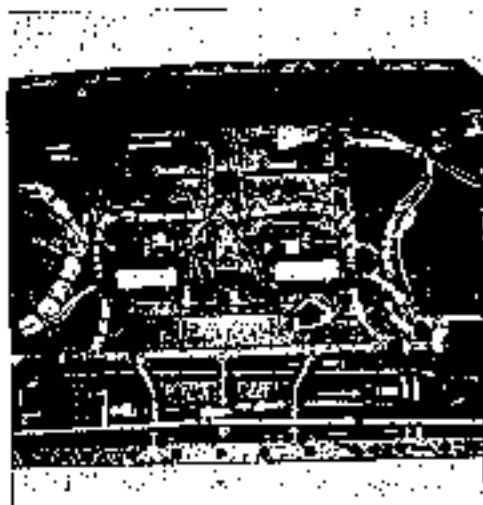

Fig. 6-2 Installation of speed switch .
3.1 REMOVAL AND INSTALLATION OF SPEED SWITCH (See Fig. 6-2)